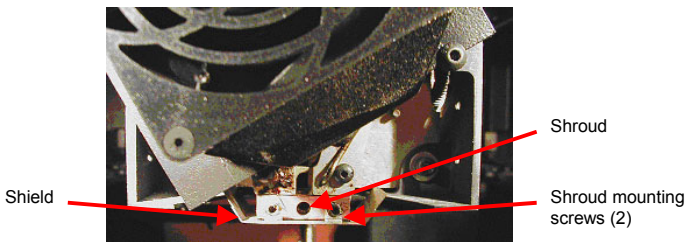

Figure 15. Shroud and shield location
5. Locate the shroud, the shroud-mounting screws, and shield, as shown in Figure 15.